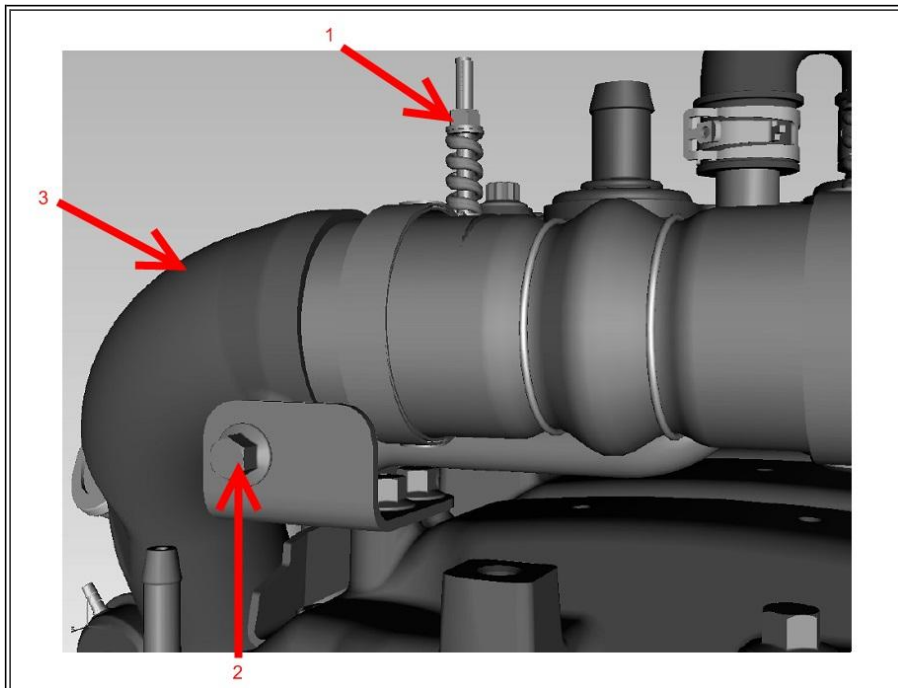

Figure 2: Interstage Tube Removal
2. Remove bolt (**Figure 2**, Item 2) from interstage tube (**Figure 2**, Item 3).
3. Loosen clamp (**Figure 2**, Item 1) and remove interstage tube from vehicle.